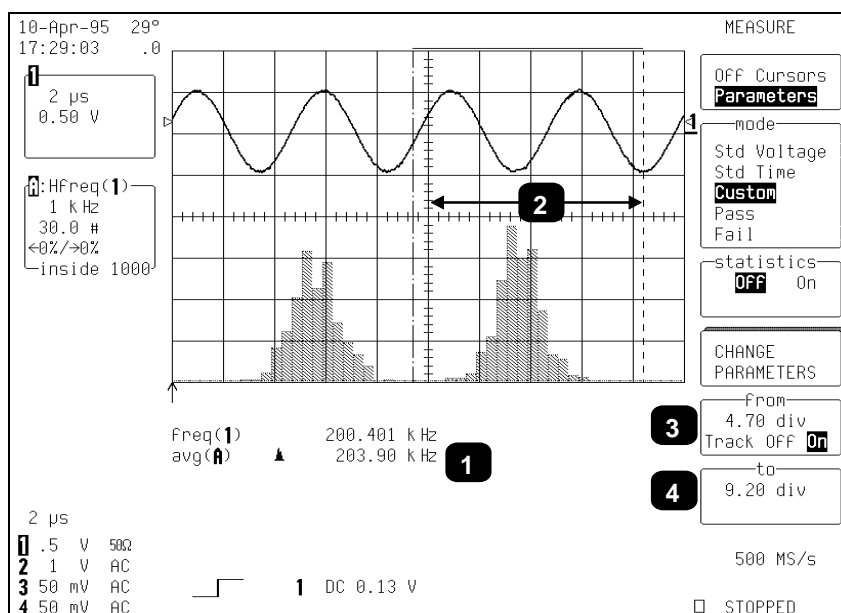

Figure 2.16
Figure 2.16 shows the average, “avg(A)” (Annotation ❶) of the distribution between the parameter cursors for a histogram of the frequency (“freq”) parameter of a waveform. The parameter cursors (❷) are set “from” 4.70 divisions (❸) “to” 9.20 divisions (❹) of the display.